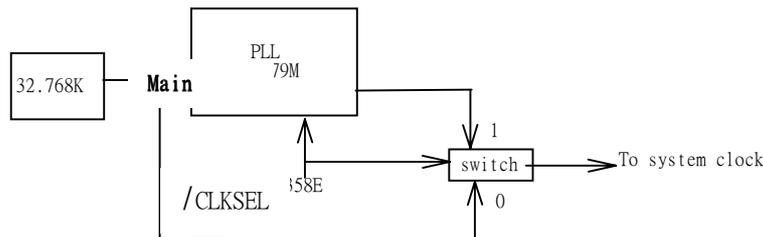

Fig7. The relation between 32.768K and Main clock
- The relation between 32.768K and Main clock can see Fig7.